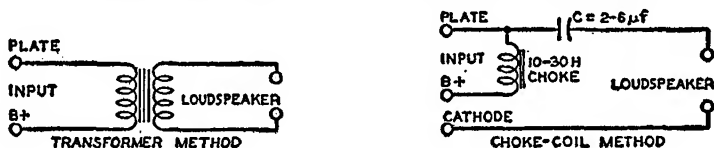

Fig. 78
Output-coupling devices are of two types, (1) choke-capacitor and (2) transformer. The choke-capacitor type includes an iron-core choke having an inductance of not less than 10 henries which is placed in series with the plate and B-supply. The choke offers a very low resistance to the dc plate current component of the signal voltage but opposes the flow of the fluctuating component. A bypass capacitor of 2 to 6 microfarads supplies a path to the speaker winding for the signal voltage. The choke-coil output-coupling device, however, is now only of historical interest. The transformer type is constructed with two separate windings, a primary and a secondary wound on an iron core. This construction permits designing each winding to meet the requirements of its position in the circuit. Typical arrangements of each type of coupling device are shown in Fig. 78. Examples of transformers for push-pull stages are shown in several of the circuits given in the **CIRCUIT SECTION**.